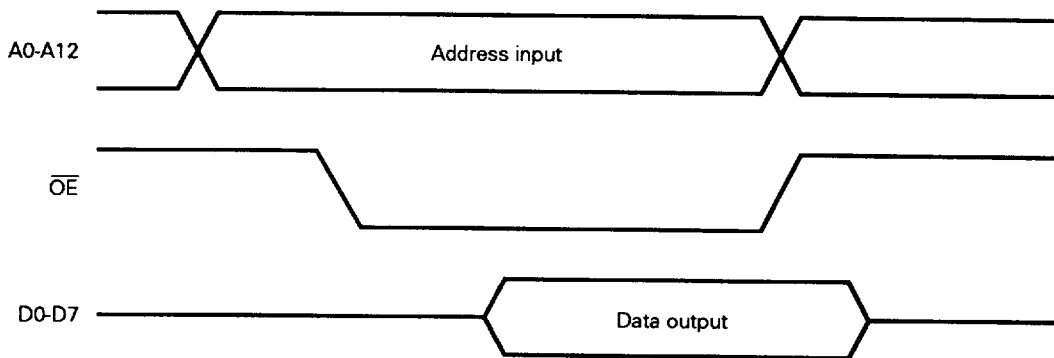

Fig. 3-2 PROM Read Timing
- (1) Process the unused pins in accordance with the description in Pin Configuration.
- (2) Supply +5 V to the V_{DD} pin and V_{PP} pin, and +12.5 V to the PROG pin.
- (3) Input the address of the data to be read to the A0 to A12 pins.
- (4) Read mode.
- (5) Data is output to the D0 to D7 pins.
Fig. 3-2 shows the timing for this sequence from steps (2) to (5).